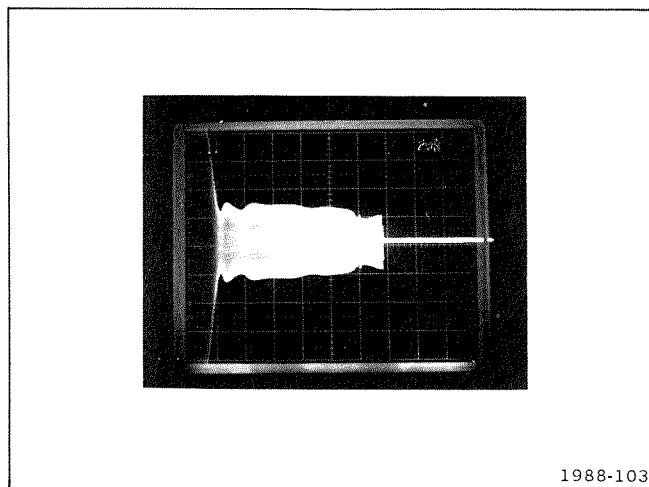

Figure 4-5. Current waveform at T1230 showing burst operation at line voltage of about 60 V.
4. If the 7834 continues in the pulse mode or to open the line fuse, check the current waveform through T1230. To do this, first repeat part 1 of this step. Then connect a current probe from the test oscilloscope to the gray lead that passes through toroid transformer T1230. Set the test oscilloscope for a vertical deflection factor of about 1 volt/-division and a horizontal sweep rate of 2 milliseconds/-division. Connect the 7834 power-cord plug to the variable autotransformer which is set for 0 volt. Turn the 7834 on and slowly increase the variable autotransformer's output to about 60 volts. Check for a burst waveform on the test oscilloscope (similar to that shown in Fig. 4-5).